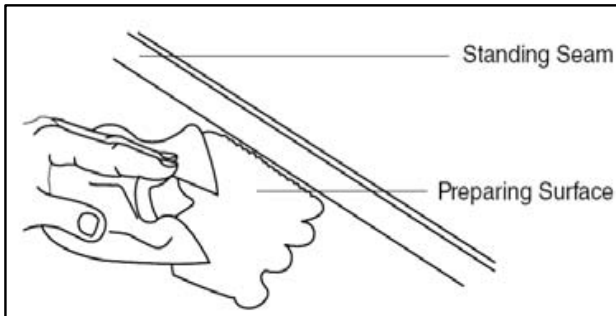

Figure 6.
2. Prepare roof surface removing oil and dirt. See Figure 6.